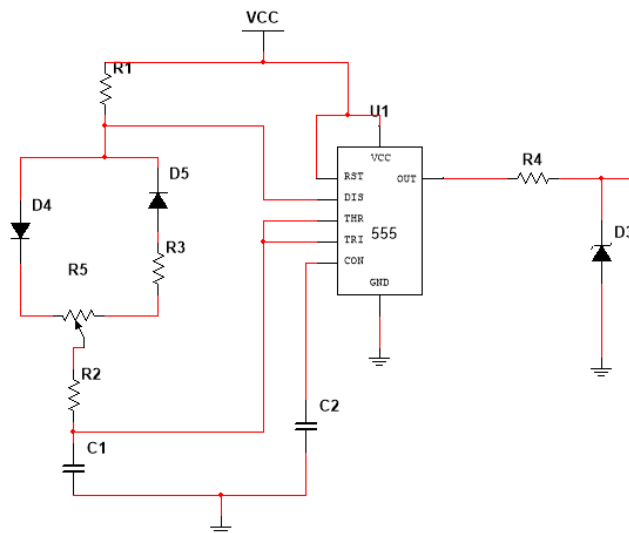

Fig 8.2: Astable Multivibrator using 555 timer.
1. Setup the circuit as shown in Figure 8.2.